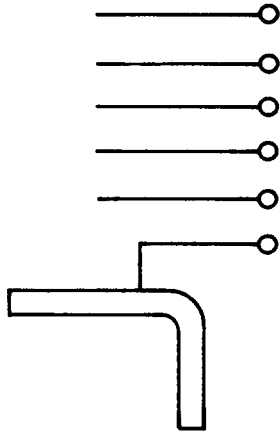

Fig. 4—455A Jack
2.04 455A: This multicontact jack (Fig. 4) is used in the J94711 patching cord test set for testing cords equipped with the 351-type plugs in Crossbar Dial Systems.